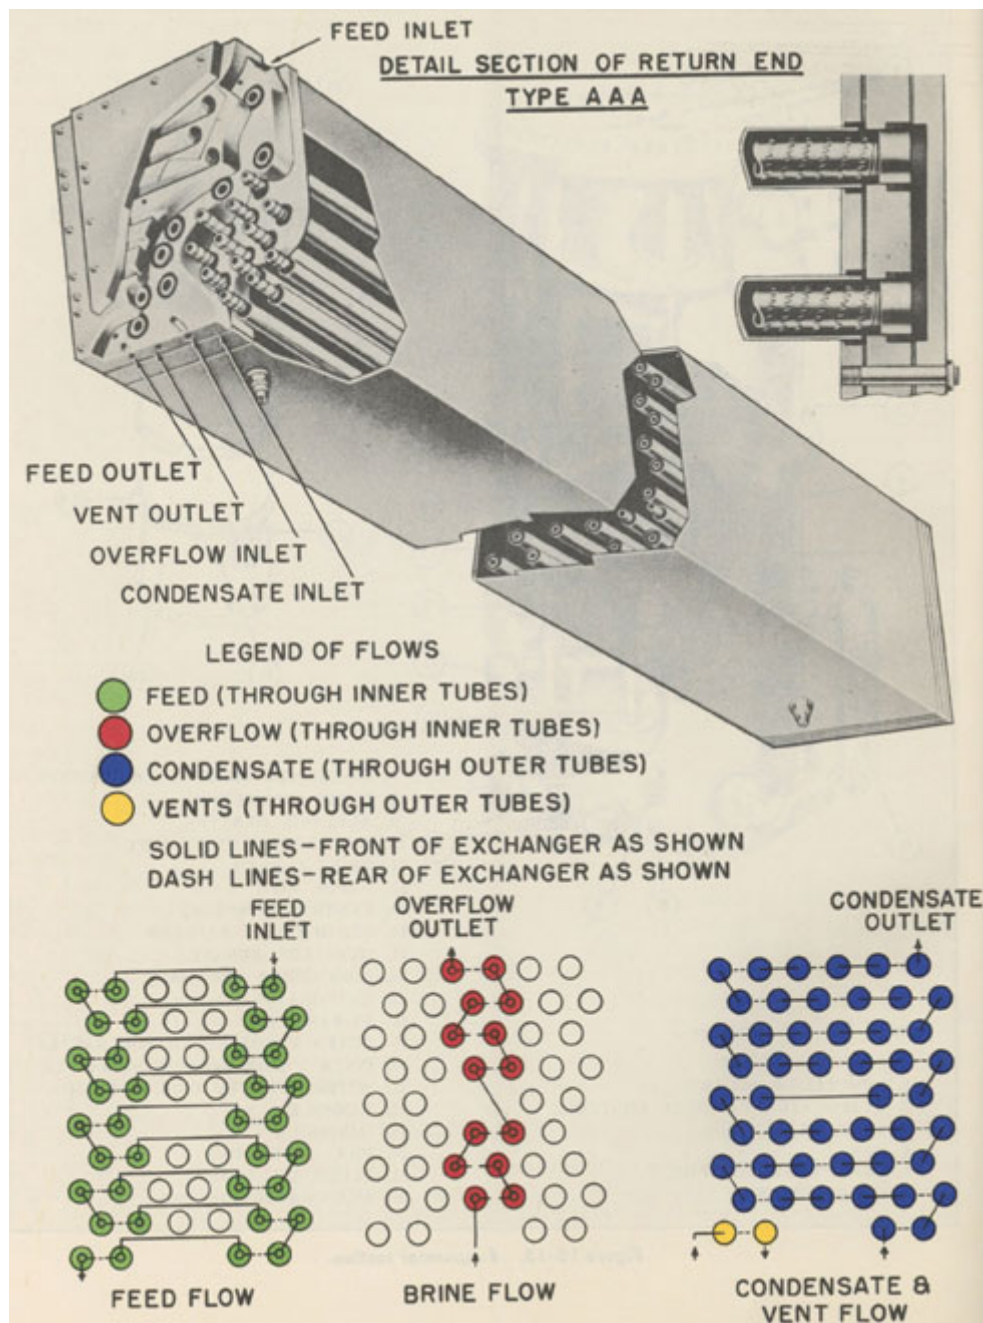

Figure 10-14. Heat exchanger cutaway and flows.
**10D4. Heat exchanger.** A double pipe heat exchanger (see Figure 10-14) is connected to the evaporator (see Figure 10-12). The function of
The cold sea water feed enters at the top of the exchanger and after being heated by flowing through 36 of the inner tubes in series, flows from the exchanger to the evaporator (see Figure 10-14). The hot brine overflow enters the heat exchanger at the bottom and is cooled by flowing through 14 of the inner tubes in series, then leaves the heat exchanger at the top (see Figure 10-14).